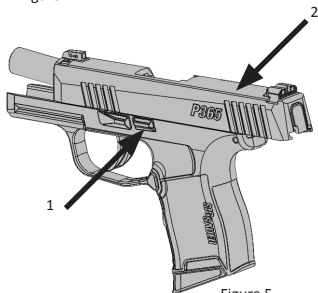

Figure 5
- a. Pressing down on the slide catch lever releasing the slide forward, chambering a cartridge (Figure 5, Item 1).
- b. Slightly pull back on the slide (Figure 5, Item 2) and release it to chamber a cartridge.